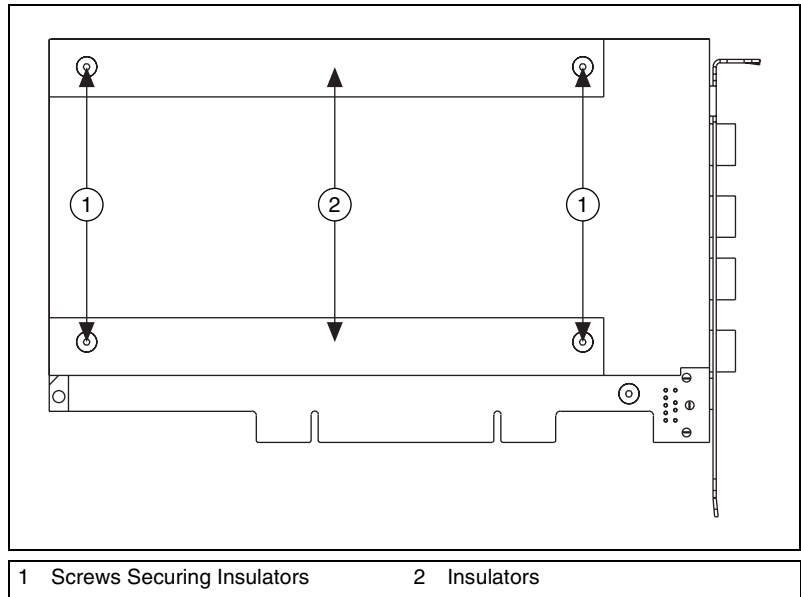

Figure 18. Removing the Insulators from the NI PCI-4060
3. Remove the four screws that secure the top and bottom insulators onto the device as shown in Figure 18.